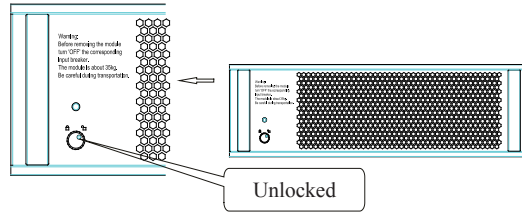

Fig. 4-3
4. Remove the packaging of the UPS module and check the position lock located on the front panel of the module. In normal condition, the white dot on the position lock should be at the position of “” (Fig. 4-3); if the white dot is at the position of “”, please turn it to the “” position.